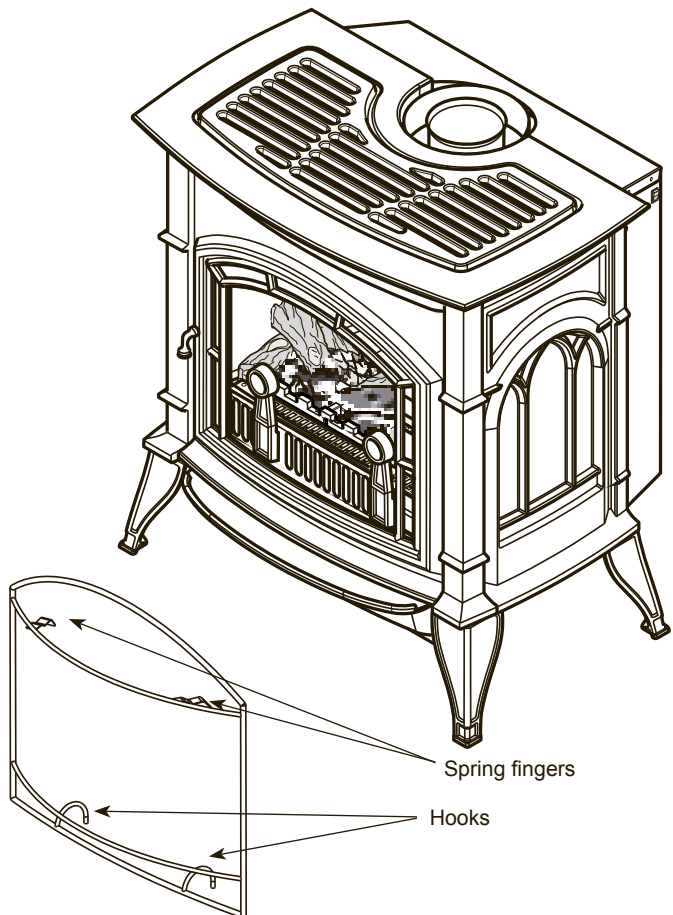

Figure 36 - Safety Barrier Installation
2. Place the two bottom hooks over the bottom edge of the stove opening. *Figure 36*